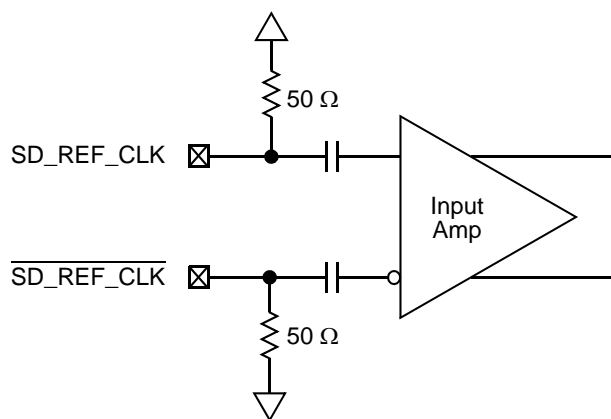

Figure 39. Receiver of SerDes Reference Clocks
- The SD_REF_CLK and $\overline{\text{SD_REF_CLK}}$ are internally AC-coupled differential inputs as shown in Figure 39. Each differential clock input (SD_REF_CLK or $\overline{\text{SD_REF_CLK}}$) has a 50- Ω termination to SGND_SRDSn (xcorevss) followed by on-chip AC-coupling.